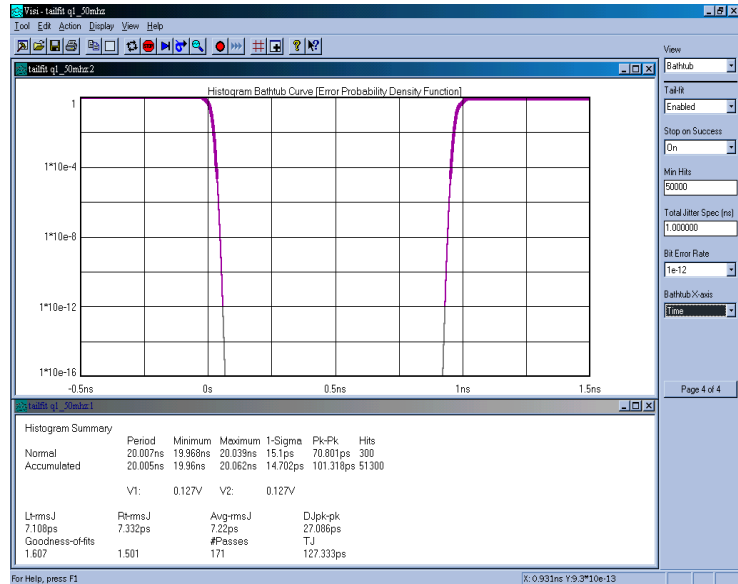
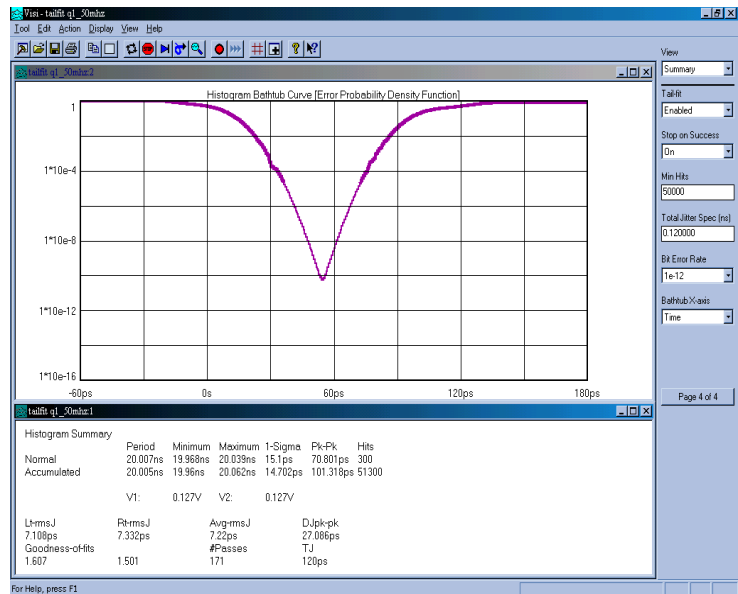

Figure 6. Bathtub Curve
Figure 7. Bathtub Curve showing specification failure
Figure 6 shows a Bathtub Curve also referred to as an “error probability density plot”. This plot is derived from a convolution of DJ and RJ values from TailFit™. The plot shows a view of the long-term reliability of the signal under test. Total Jitter (TJ) is extracted directly from this plot and is a pk-pk value at a specific bit error rate or number of clock cycles. The TJ value is read from the curve at the point that the color turns to gray.
The Y-axis in these examples represents a number of cycles of the clock. Figures 6 & 7 show a clock's TJ calculated to 10^{12} cycles or 10×10^3 seconds of a 50MHz clock. In Figure 6, the specification is set to 1000 ps, so that at 10^{12} cycles or 10×10^3 seconds, Total Jitter (TJ) = 127.333ps.
A specification failure would be indicated if the lines met above the “bit error rate” set in the dialog menu. In Figure 7, the spec is set to 120ps (for the same clock used in Figure 6). Note that this plot shows TJ=120ps, since the actual TJ=127.333ps the clock failed the 120ps spec. The plot indicates that the device under test is predicted to fail the spec at just over 1×10^{-11} seconds.